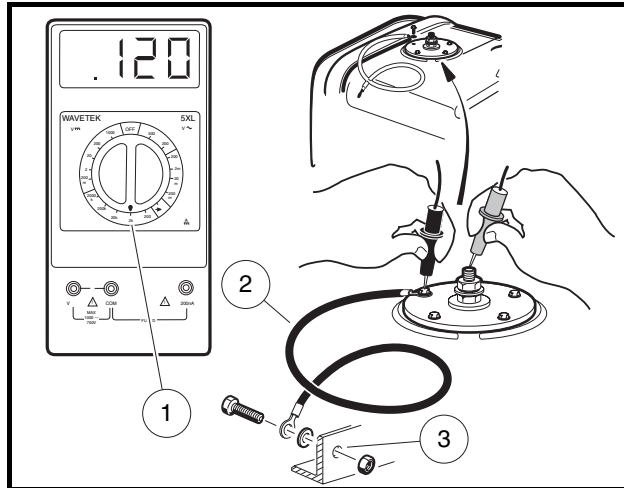

Figure 12-31 Fuel Level Sending Unit Test
3. With a multimeter set to 2k ohms, place the red (+) probe of the multimeter on the center post of the sending unit. Place the black (–) probe on the ground connection of the sending unit (**Figure 12-31, Page 12-32**).